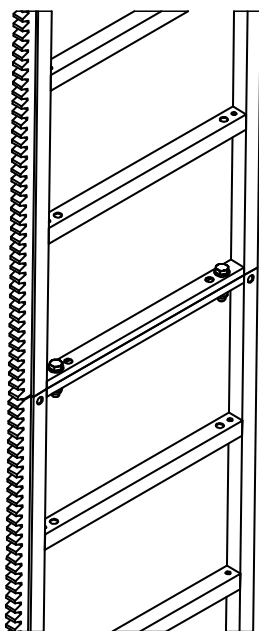

Fig. 10
4. Tighten the connection bolts between the ladder sections (see Fig. 10).